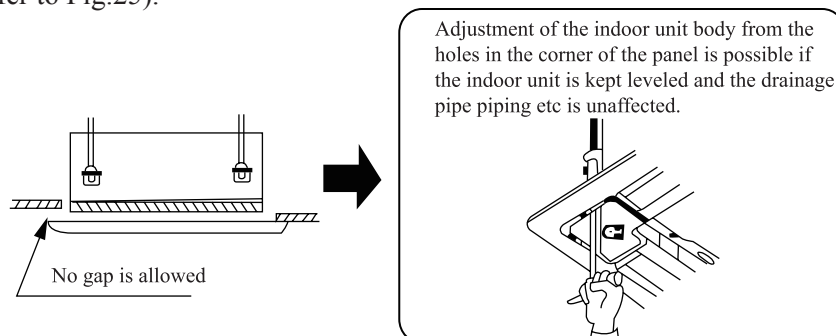

Fig.25
2. If gap is still left between the ceiling and the panel after screwing the screws, readjust the height of the indoor unit body (Refer to Fig.25).